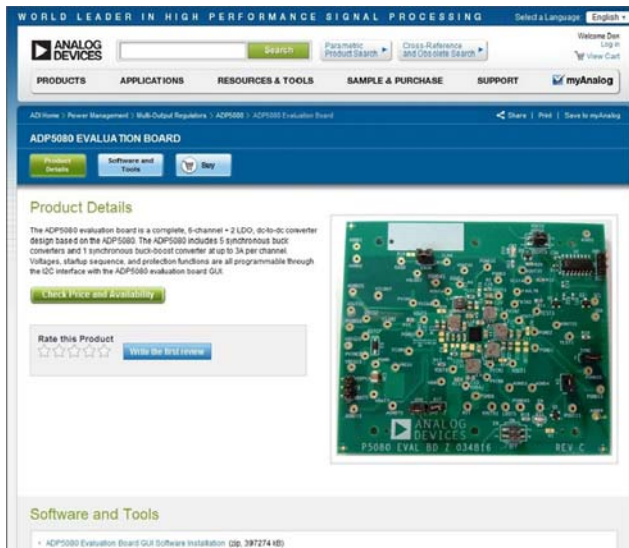

Figure 8. ADP5080 Evaluation Board Product Page
1. Download the **ADP5080 Evaluation Board GUI Software Installation** file from the **Software and Tools** section at www.analog.com/EVAL-ADP5080 (see Figure 8).